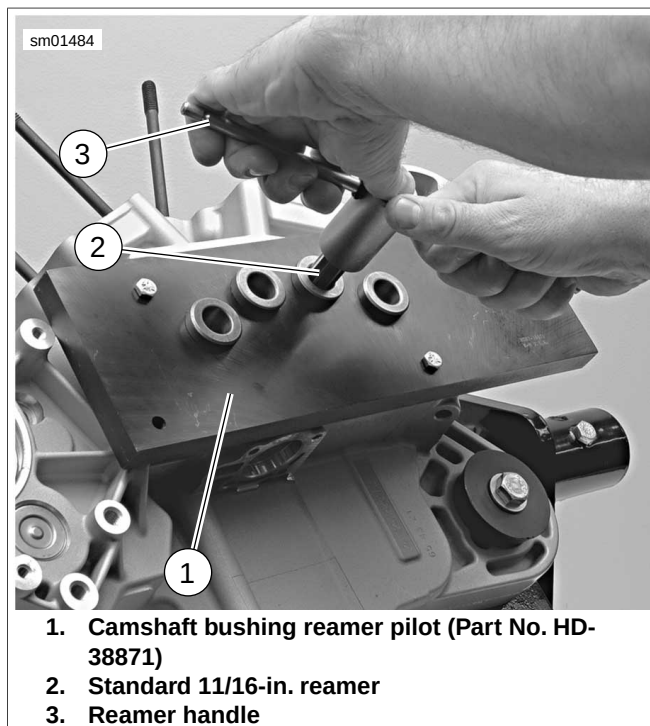

Figure 3-111. Reaming Cam Gear Bushing in Right Crankcase
2. See Figure 3-111. Position CAMSHAFT BUSHING REAMER PILOT (Part No. HD-38871) onto gearcase side of crankcase; upper right and lower left indexing holes in pilot must be placed over dowels in crankcase. Insert two bolts (supplied with pilot) through two remaining holes in pilot, and into threaded holes of crankcase. Tighten bolts securely.